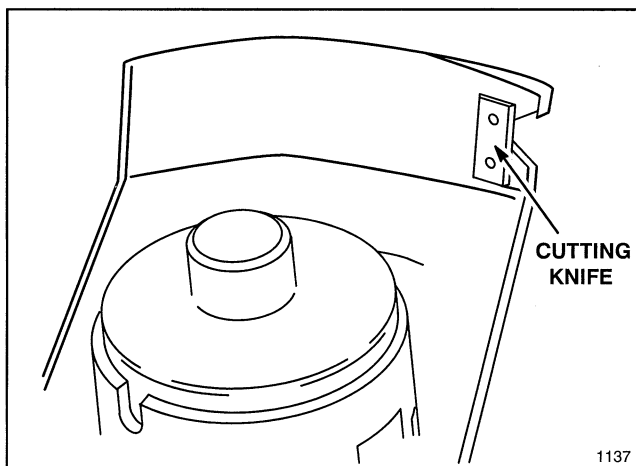

Figure 3
2. Remove tape from cutting knife on grass shield (Fig. 3).